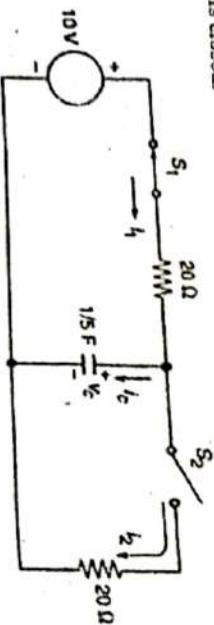

Fig. 15
Q.1. In the circuit of Fig. 15, the switch S_1 has been closed for a long time. At $t = 0$, the switch S_2 is closed.